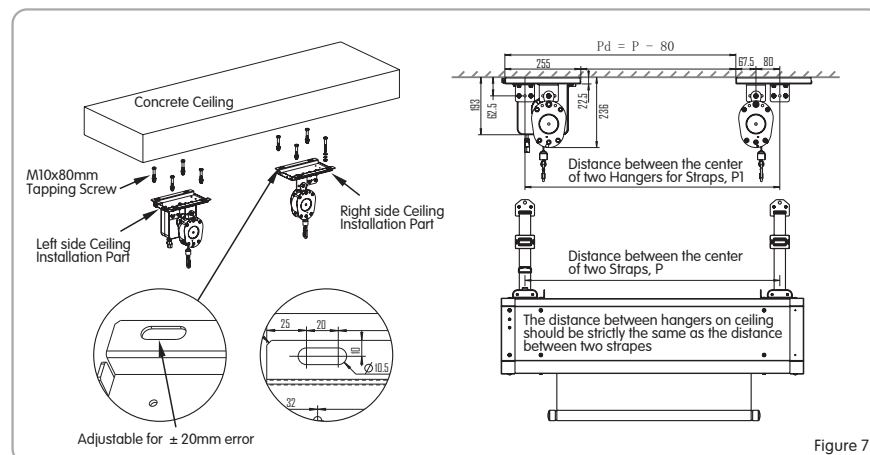

Figure 7
6. Measure the distance between the center of two Straps, mark as P, correct to mm. Ensure the distance P1 between the center of two Hangers for Straps is exactly the same as P, only ± 20mm error is adjustable, after that use Tapping Screws to install the 2pcs all set Ceiling Installation Parts onto concrete ceiling. Figure 7.